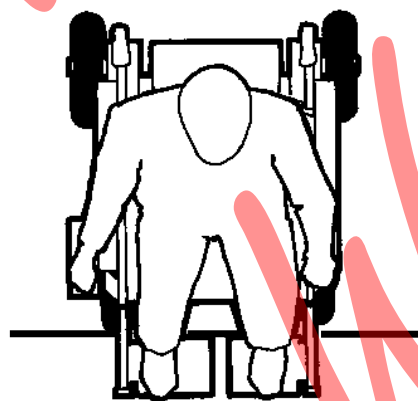
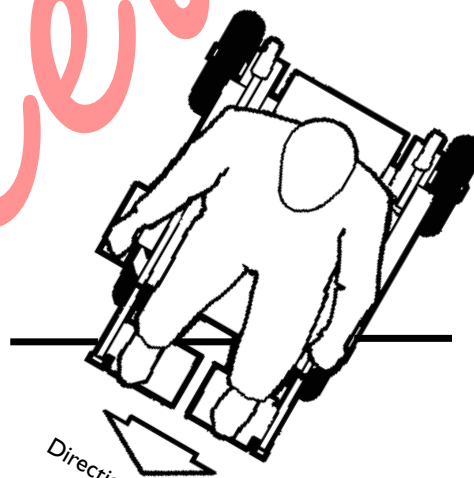

Fig. 3
Fig. 4
When approaching kerbs wherever possible mount and dismount pavements via ramps. Always approach the kerb head on (Fig. 3), not at an angle (Fig. 4). NEVER attempt to reverse down a kerb.
2. Always approach head on (Fig. 3) and not at an angle (Fig. 4).